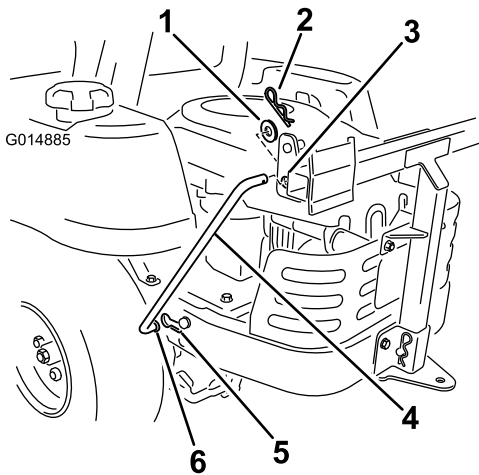

Figure 14
5. Install two support rods, one to each side of the bagger frame. Locate the existing keyed slot in the machine frame and install the bent, flared end of the rod into that slot (Figure 14). Move the rod rearward to seat it in the frame.
6. Insert the bent ends of the rod into the bagger frame as shown in Figure 14. Secure the end of the rod with a washer and hair pin.